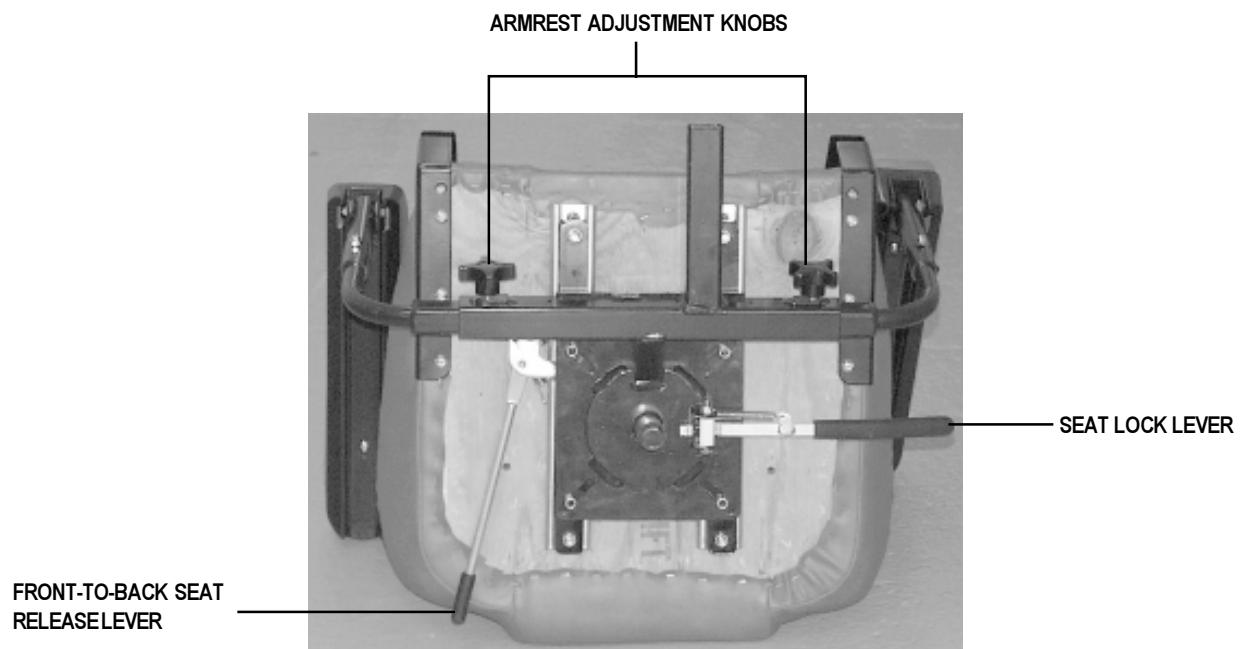

Figure 13. Seat Adjustments
1. Pull out the front-to-back seat release lever. See figure 13.
1. Push down on the seat lock lever to unlock the seat. See figure 13.
The armrest width of your Celebrity can be adjusted inward or outward. See figure 13.